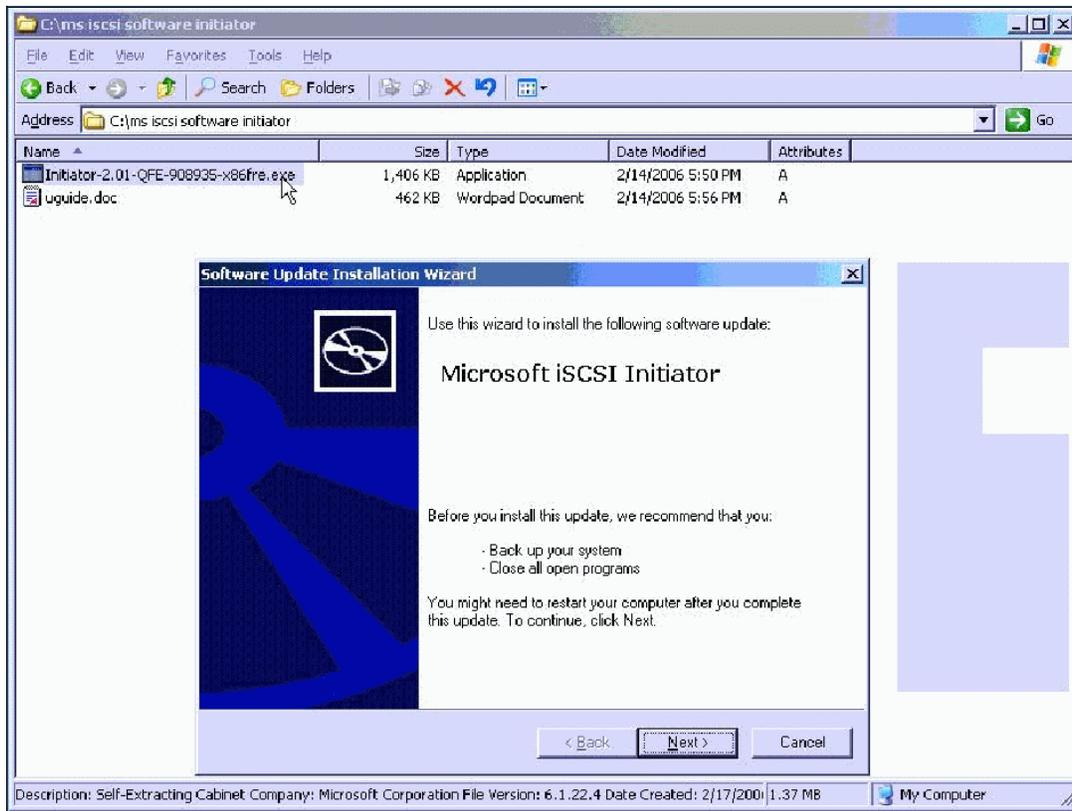

Figure 2-24 Microsoft iSCSI Initiator installation window
2. Install the Microsoft iSCSI Initiator Service by selecting the downloaded executable file shown in Figure 2-24.